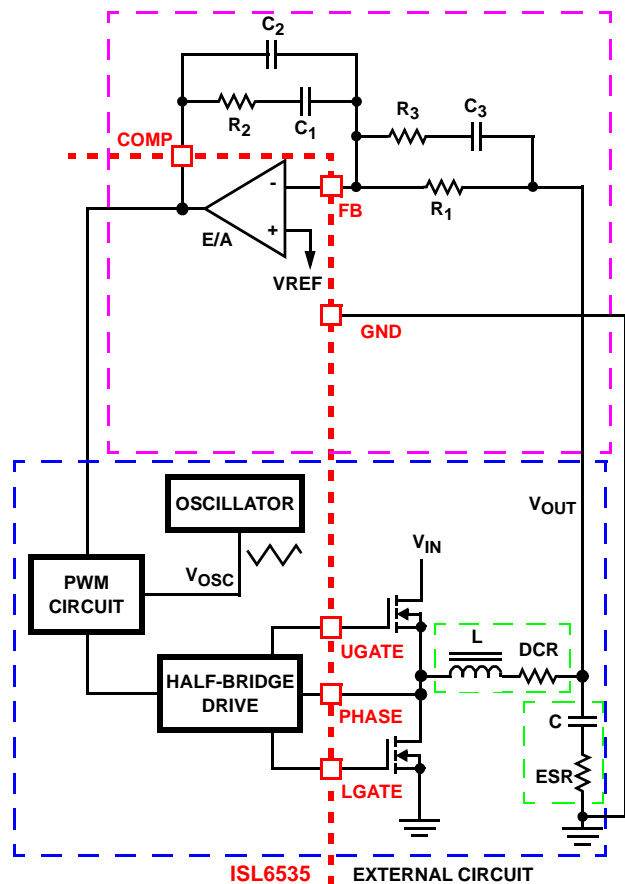

FIGURE 10. VOLTAGE-MODE BUCK CONVERTER COMPENSATION DESIGN
Figure 10 highlights the voltage-mode control loop for a synchronous-rectified buck converter. The output voltage is regulated to the reference voltage level. The error amplifier output is compared with the oscillator triangle wave to provide a pulse-width modulated wave with an amplitude of V_{IN} at the PHASE node. The PWM wave is smoothed by the output filter. The output filter capacitor bank's equivalent series resistance is represented by the series resistor ESR.
1. Select a value for R_1 (1k Ω to 10k Ω , typically). Calculate value for R_2 for desired converter bandwidth (F_0). If setting the output voltage to be equal to the reference set voltage, as shown in Figure 10, the design procedure can be followed as presented.